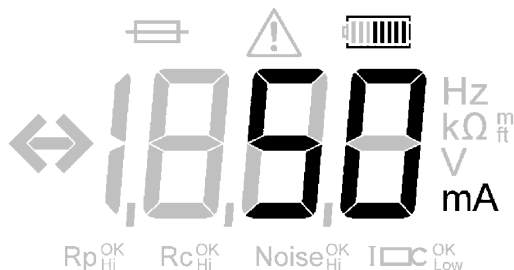

Figure 9: Current reading using the current clamp
3. The instrument will display a measured current value, as shown in Figure 9.